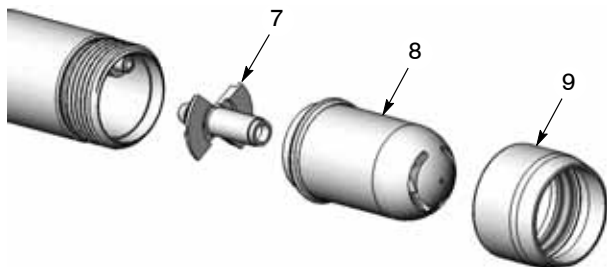
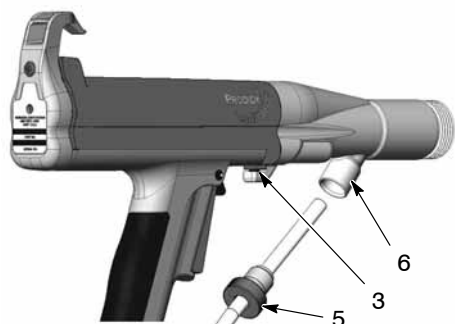

Figure 17 Remove the Nozzle and Tubing Adapter
Figure 23 Loosening the Adapter Set Screw
2. See Figure 17. Unscrew and separate the retaining nut (9) and nozzle (8) assembly from the spray gun.
3. Pull the tubing adapter (7) from the powder tube.
1. See Figure 17. Unscrew the nozzle (8) and retaining nut (9) from the spray gun.
2. Pull the tubing adapter (7) out of the powder tubing.
3. See Figure 23. Unscrew the lock knob (5) and pull the powder tubing out of the gun adapter (6).
4. Loosen the set screw (3) in the bottom on the gun adapter.
6. See Figure 17. Follow the *Tubing Installation* procedure on page 7 to install the powder tubing.
8. See Figure 17. Follow the *Tubing Installation* procedure on page 7 to install the powder tubing.